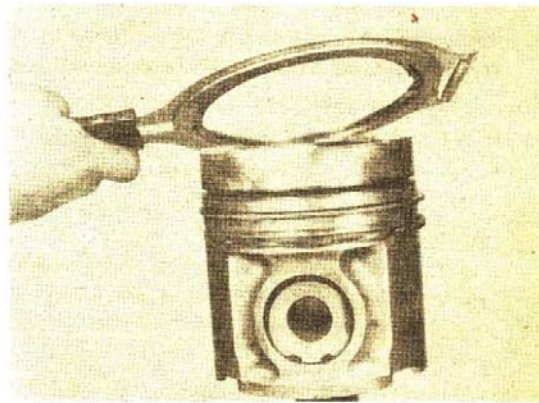

Fig. 14-11, Install the piston rings
1. Use the ST-1269 Piston Ring Expander to install the rings on the piston with the "Top Marking" toward the top of the piston, Fig. 14-11.
2. Over-expanding a piston ring during installation on the piston can cause distortion which will result in damage leading to ring failure. A ring should be expanded only enough to allow it to pass over the piston. The measured gap should not be expanded more than eight (8) times the nominal radial wall thickness of the ring.